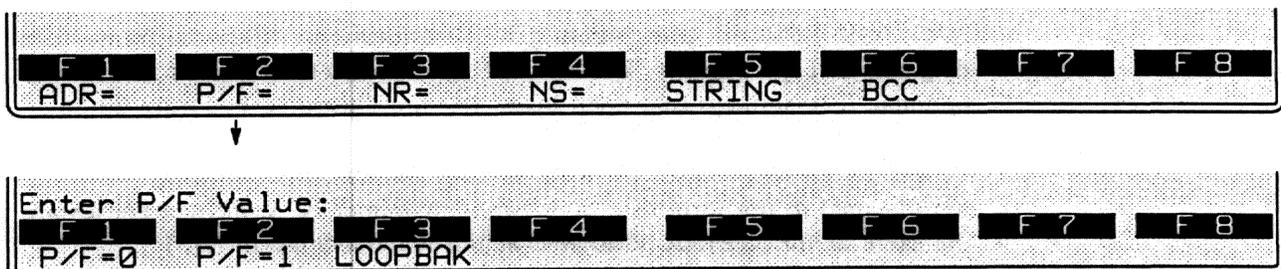

Figure 33-23 A P/F value is optional in all *SEND* entries.
6. *Poll/final bit*. The P/F bit is an optional entry in all SEND actions. P/F values of 0, 1, or LOOPBAK are entered by the softkeys in Figure 33-23. If P/F= LOOPBACK, the bit will echo the last P/F bit received. (Looping the P/F bit is appropriate for UAs and supervisory frames.) Default P/F values are given in Table 33-1.